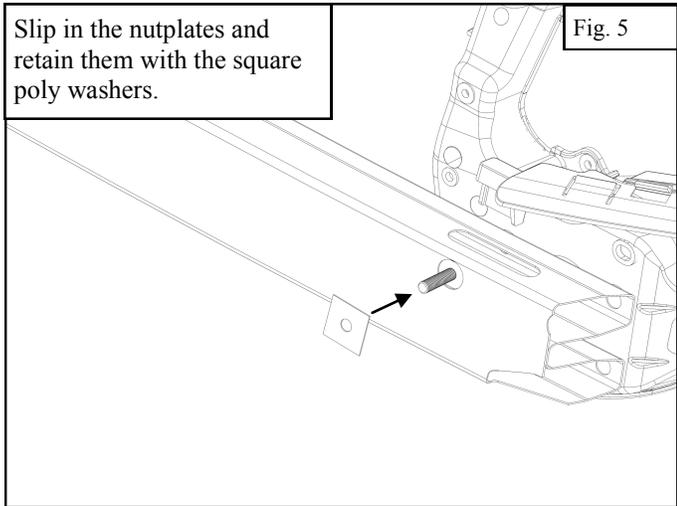

Fig. 5
4. Take the supplied M10 Bolt Plates and slip them into the large holes in the vehicle's bumper channel. Retain the bolt plates with the supplied poly bolt retainers (Figure 5).